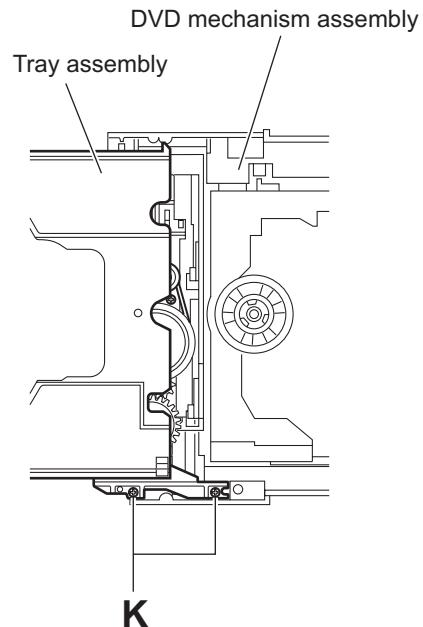

Fig.13
- (6) Remove the two screws **K** attaching the tray assembly and take out the tray assembly from the DVD mechanism assembly. (See Fig.13.)